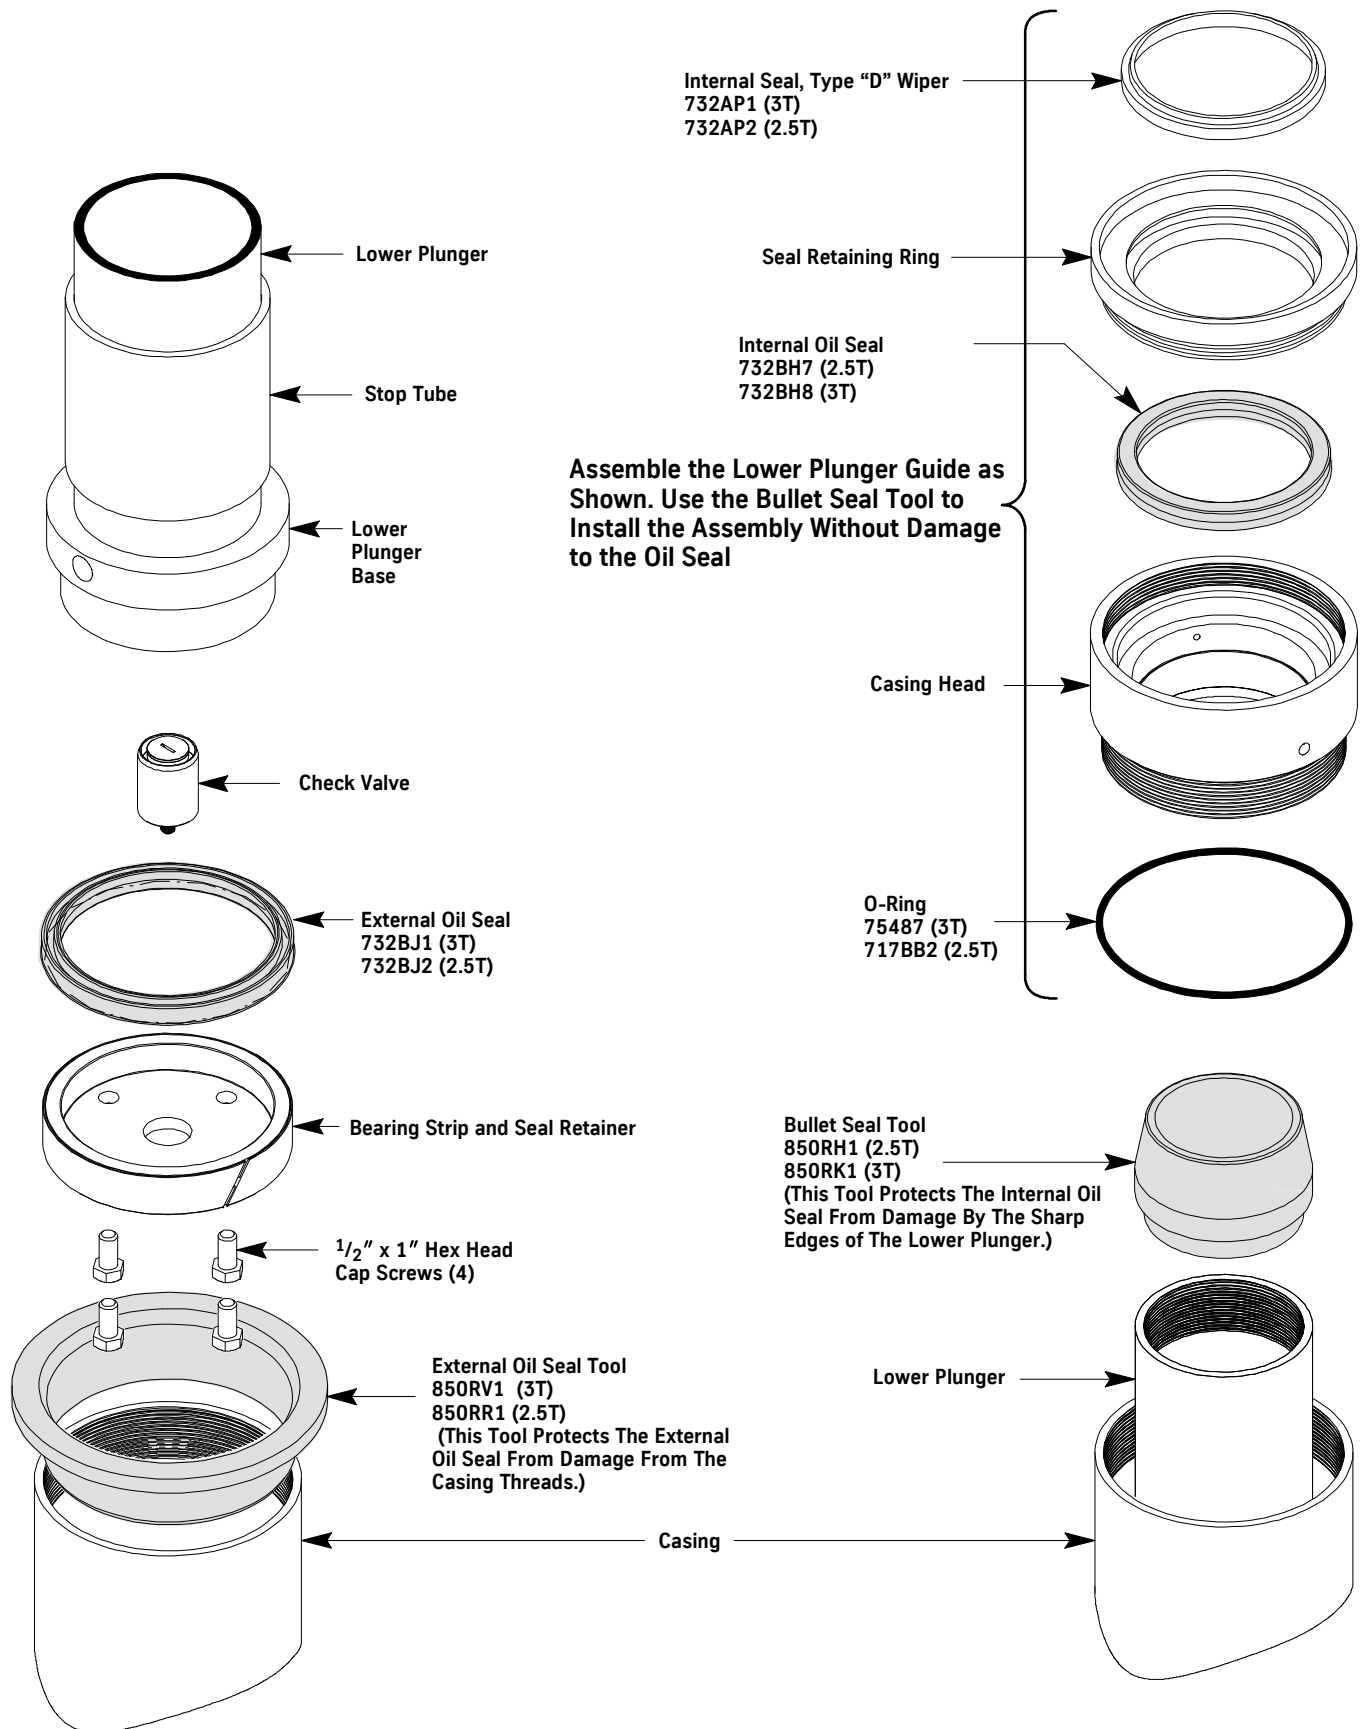

Figure 29 - Casing and Lower Plunger Internal and External Oil Seal Installation
1. Replace the Seals and Check Valve O-Ring of the Lower Plunger as follows. See Figure 29:
2. Place the external seal tool over the top of the casing. See Figure 29.
9. Reassemble the lower plunger guide with a new wiper, internal oil seal, and O-Ring. Apply grease to the O-Ring to hold it in place. See Figure 29.